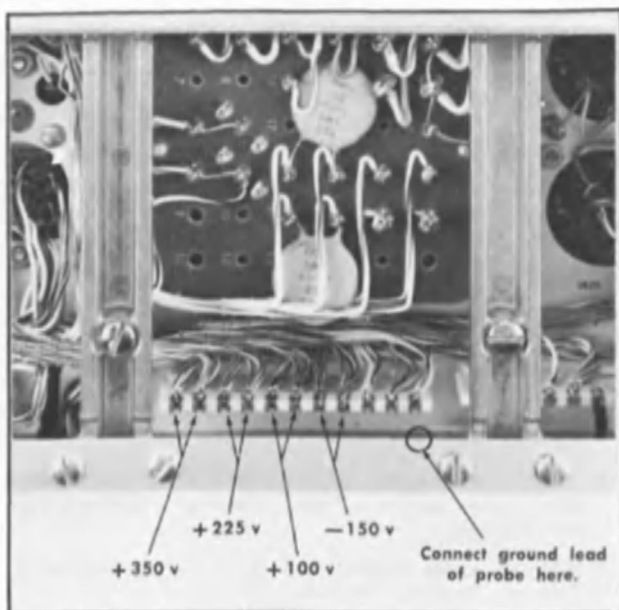

Fig. 5-1. Low-voltage power supply test point locations.
4. Using the VOM, check the resistance from the regulated power-supply terminals to ground as shown in Fig. 5-1. The values of resistance should be approximately as indicated in Table 5-1, once the capacitors are charged by the VOM internal battery.
- b. Check the voltage accuracy of each power supply output using the VOM according to the information given in Table 5-3. The location of the test points is shown in Fig. 5-1.
- a. Monitor the regulated output of the -150-volt supply with the VOM. The test point location is shown in Fig. 5-1.
ripple due to ground loops is to temporarily disconnect the chassis ground wire in the power cord by using an ungrounded 3- to 2-wire line-plug adapter. Then use a ground lead from the signal probe body to make a ground connection to the oscilloscope chassis at the location shown in Fig. 5-1. The probe will then provide the only ground connection between the two instruments. The term "test oscilloscope" is item 1 under "Equipment Required" while the term "oscilloscope" or "instrument" is the oscilloscope being calibrated.